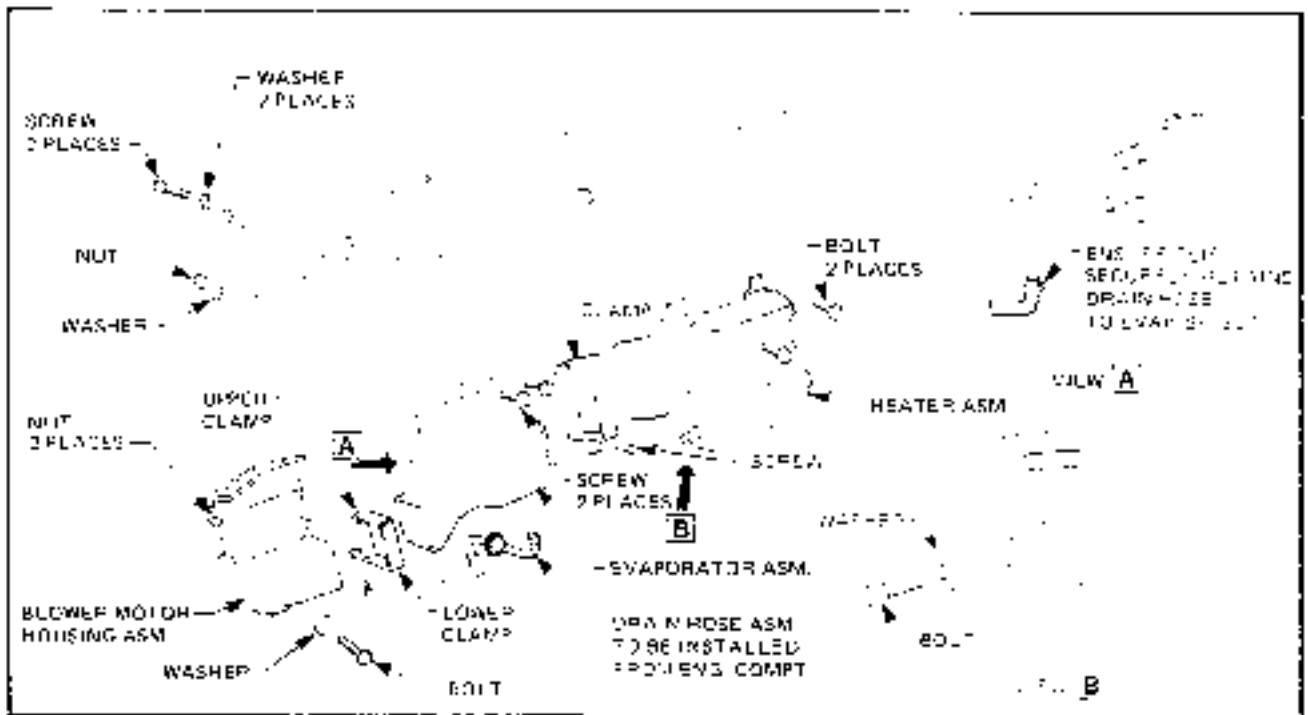

Figure 2B-33
14. From under the instrument panel, disconnect the drain tube illustrated in View 'A' Fig. 2B-33 from the base of the evaporator assembly.
15. Position a wooden wedge between the left hand side of the instrument panel pad and the instrument panel frame to gain access to the two bolts illustrated in Fig. 2B-33, which secure the top of the evaporator assembly to the instrument panel frame, then using a socket extension and a ratchet handle, remove the bolts securing the evaporator assembly to the instrument panel frame.
16. From inside the engine compartment, remove the two bolts illustrated in Fig. 2B-33, securing the front of the evaporator assembly to the lower dash panel.
17. Remove the clamps illustrated in Fig. 2B-33, which retain and seal the ends of the evaporator housing to the heater and blower motor housing assembly, disconnect the electrical connectors and vacuum hoses, then carefully remove the evaporator ass.